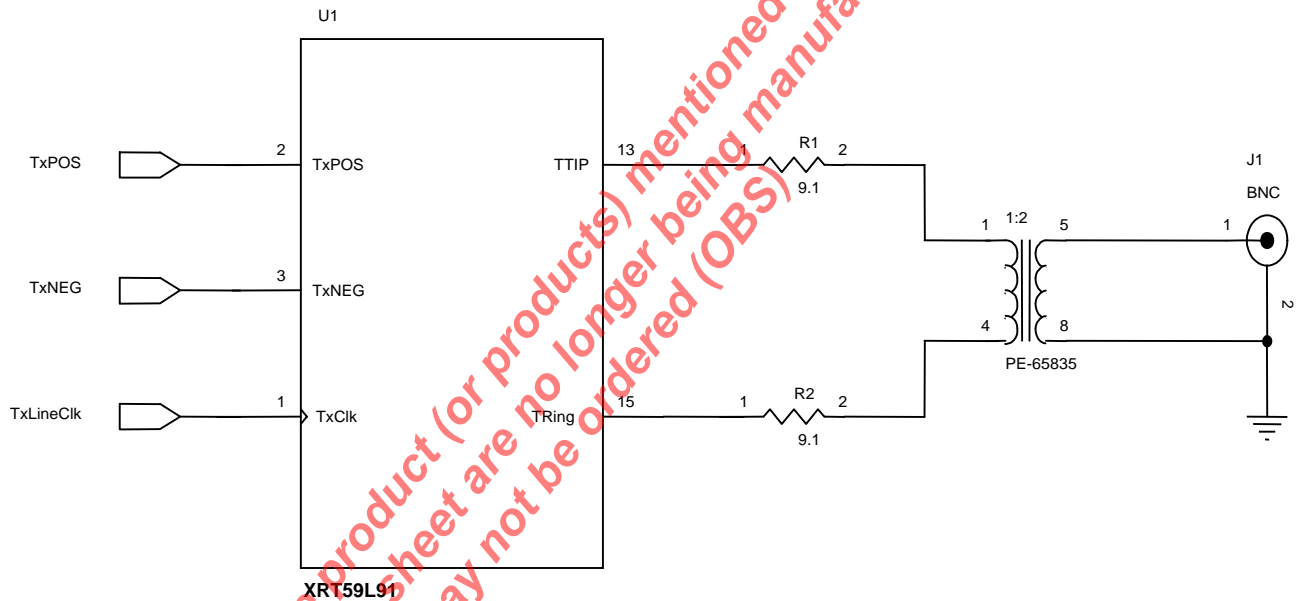

Figure 5. Illustration of how to interface the Transmit Section of the XRT59L91 device to the Line (for “75Ω” Applications)
In both applications (e.g., 75Ω or 120Ω), the user is advised to interface the Transmitter to the Line, in the manner as depicted in Figures 5 and 6, respectively.
1. Figures 5 and 6 indicate that for both “75Ω and “120Ω” applications, the user should connect a 9.1Ω resistor, in series, between the TTIP/TRing outputs and the transformers.
2. Figure 5 and 6 indicate that the user should use a “1:2 STEP-UP” Transformer.